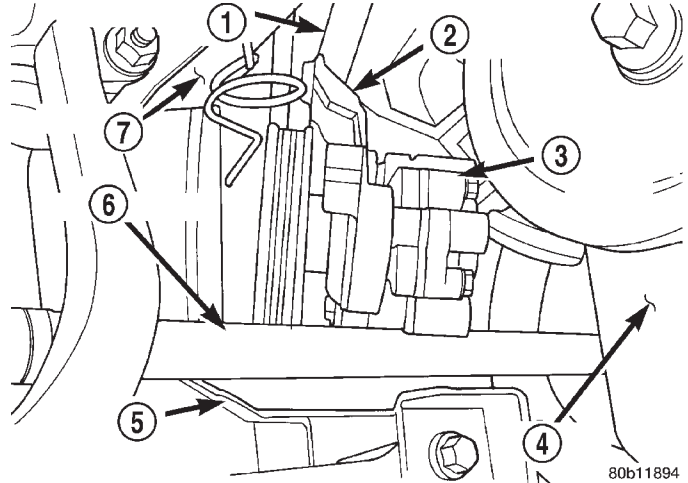

Fig. 18 Power Steering Pump Removal/Installation
(17) Remove the 4 bolts mounting the power steering pump mounting bracket to the engine.
(18) Remove the power steering pump mounting bracket from the engine. Position the power steering pump mounting bracket where it will not be in the way when removing power steering pump from the vehicle.
(19) Remove power steering pump, fluid supply hose and front mounting bracket as an assembly from the engine and vehicle. Pump, fluid supply hose and mounting bracket is removable by bringing it out through area between rear of engine, frame drive-shaft and front suspension crossmember (Fig. 18).
(20) Transfer required parts from removed power steering pump to replacement power steering pump.